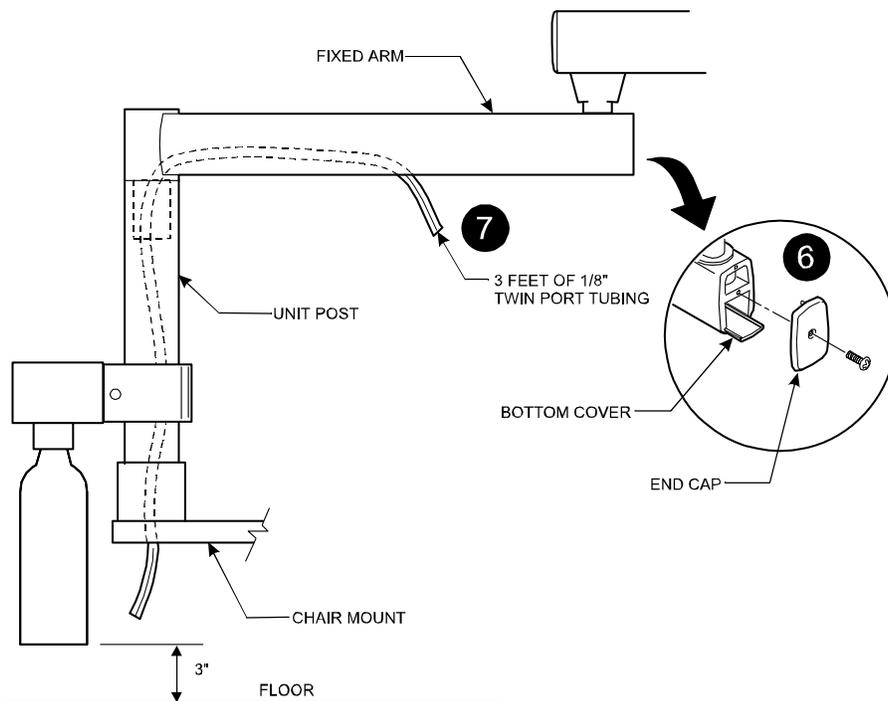
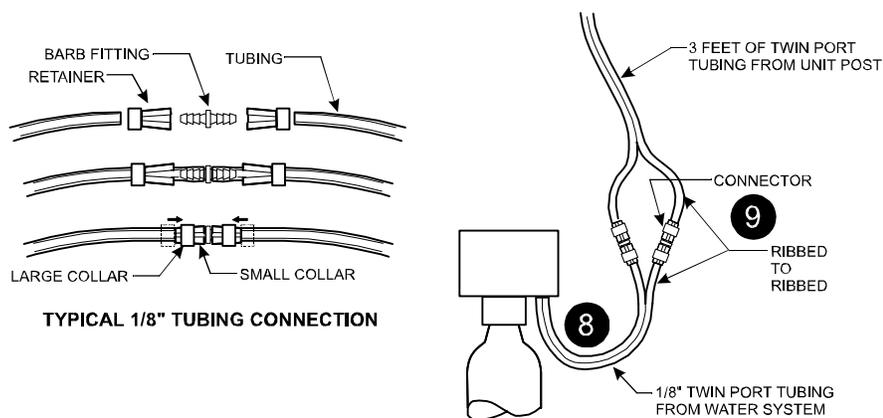

Figure 2
Figure 3
- ⑥ Remove the end cap from the fixed arm and slide out the bottom cover to gain access to the tubing inside (See Figure 2).
- ⑦ Route 3 feet of the 1/8" twin port tubing supplied into the fixed arm and down through the unit post as shown.
- ⑧ Cut the twin port tubing, coming from the water system, down to approximately 12 inches in length (see Figure 3).
- ⑨ Connect this tubing to the 3 feet of twin port tubing coming from the unit post using the barb fittings and retainers provided (**match ribbed tube to ribbed tube**). Push the connections up into the unit post and out of sight.